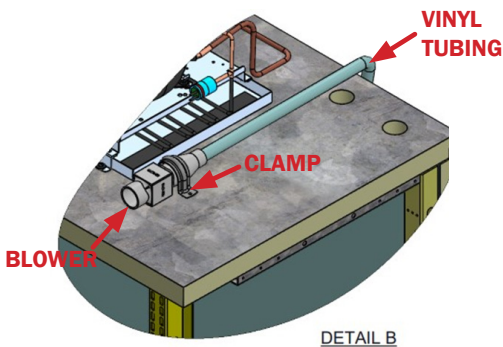

Fig. 32 Vinyl tubing to PVC blower
5. Now connect the other end of the Vinyl tubing to the Ship-loose PVC Blower (Fig. 32). The Blower must always be located behind the CDU or CDU metal housing. It must be secured with a ship-loose clamp on its adapter body.